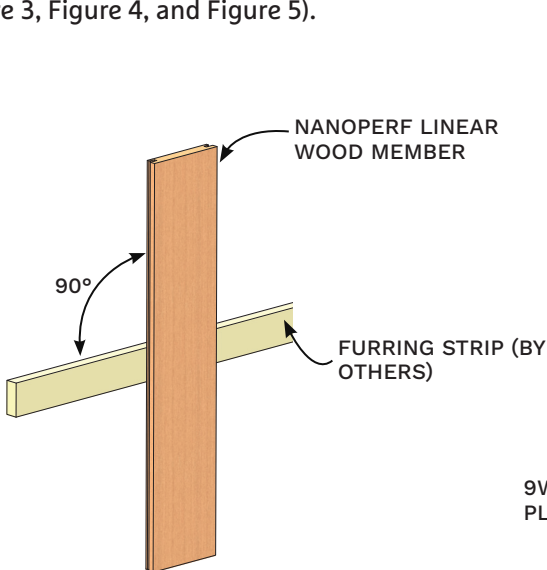

Figure 2
- Furring strips are to be installed perpendicular to the Nanoperf Planks (see Figure 2)